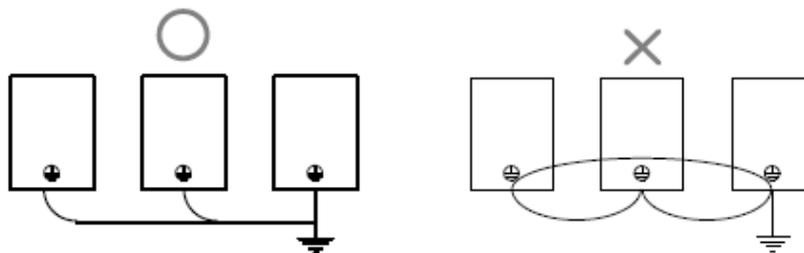

Figure 4-10 Grounding method of more than one inverter
4.3.4.2 Ground Terminal (E)/ (PE)
- For the method to ground inverters more than one, see Figure 4-10.